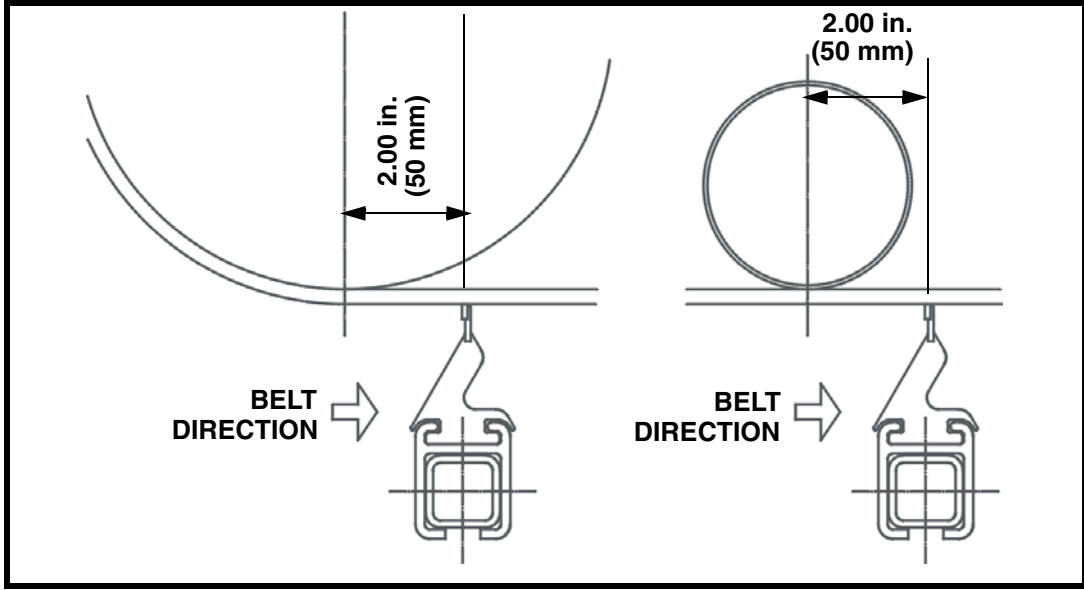

Figure 1a. Belt Direction
Solid backing of the blade is essential to ensure proper operation and efficient cleaning. Install the cleaner adjacent to the head pulley or a flat pressure roller to obtain best cleaning results. See Figures 1a and 1b.
1. On the return side of the belt, locate the tangent point at which the belt leaves the head pulley. Measure a distance 2 in. (50 mm) and draw a line perpendicular to the belt at this point. See Figures 1a and 1b.
2. Note: For installation below pressure rollers, mark the vertical line 2 in. (50 mm) from the centerline of the roller. See Figure 1a.